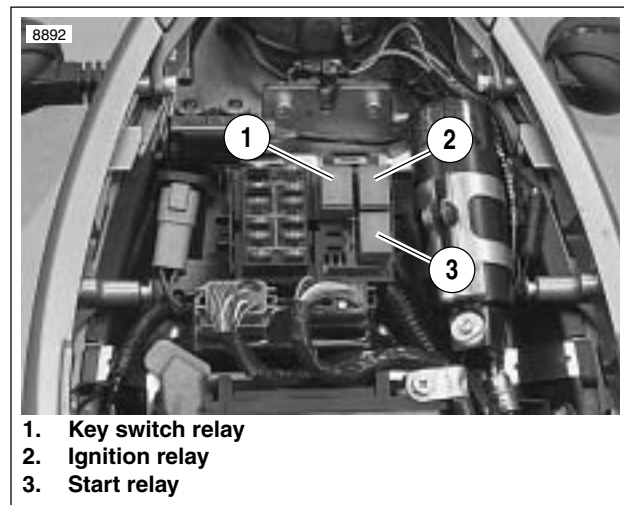

Figure 7-16. Relay Block
1. See Figure 7-16. Locate ignition relay (2) within relay block.
See Figure 7-16. The key switch relay (1) is under the seat. See Ignition Relay under **7.5 STARTER INTERLOCK** for testing procedure.